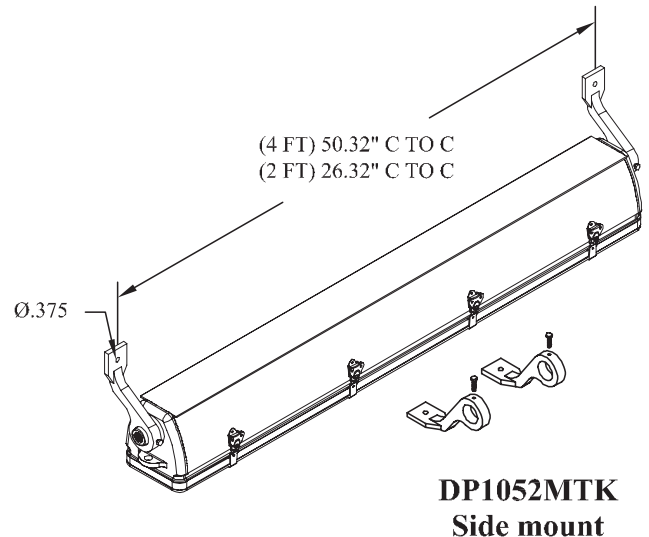

Figure 3. DP1052MTK Side Mount Installation
2. Mark and drill holes for fastening end brackets. Use two (2) 1/4" bolts (not supplied) at center to center measurements (see Figure 3).
3. Fixture is now ready for mounting. It is strongly suggested to use two (2) qualified tradespeople to proceed with the final mounting of the fixture. This is recommended to avoid any personal injury or damage to the fixture.